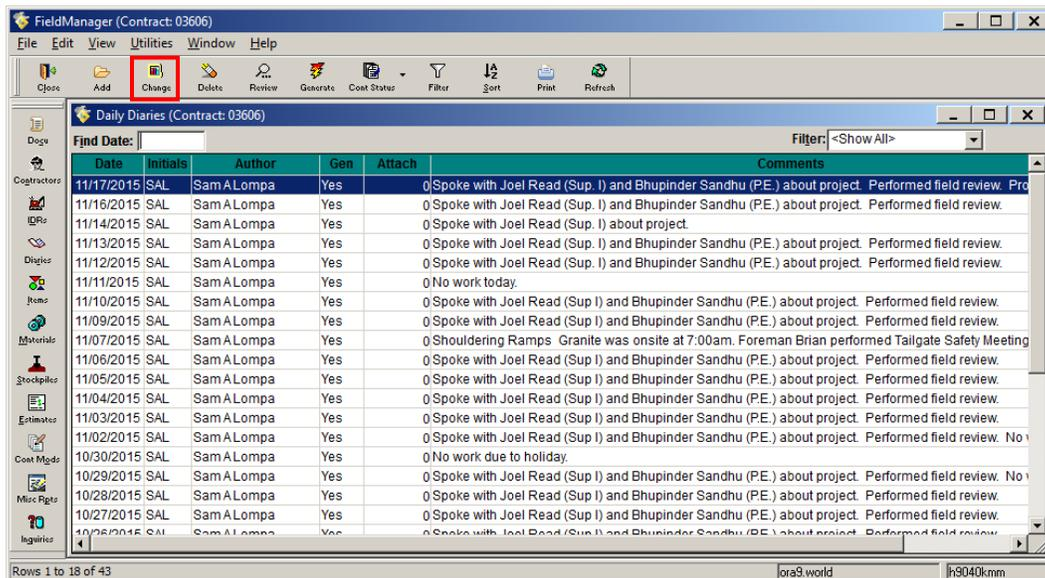
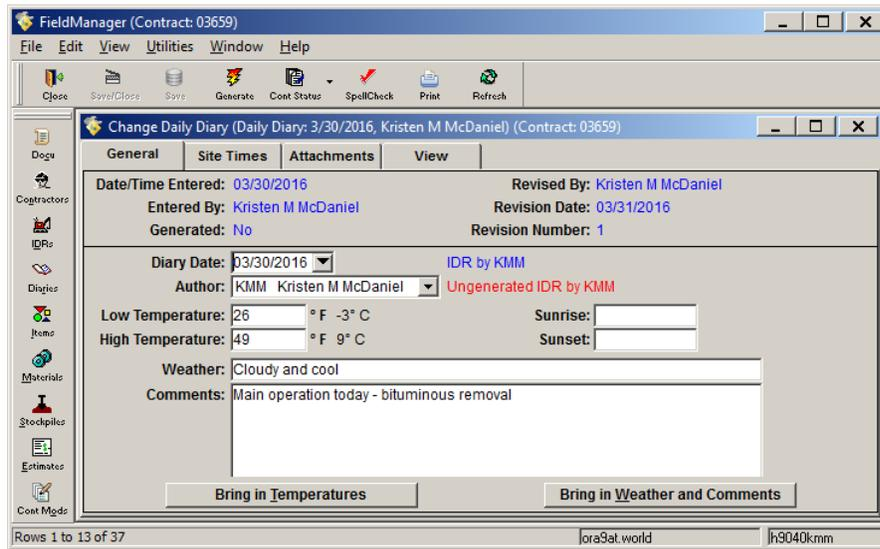

Figure 8-7. Daily Diary List Window
Figure 8-8. Change Daily Diary Tab Window – General Tab
1. From the Daily Diaries list window select the Daily Diary, and click **Change** on the Window Toolbar (Figure 8-7) or double-click on the diary. The Change Daily Diary tab window opens in the General tab (Figure 8-8).